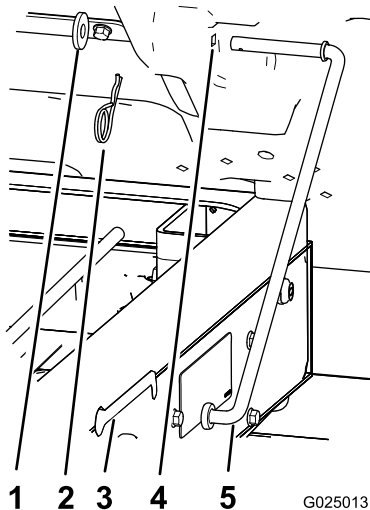

Figure 13
1. Remove the hairpin and washer that secure the prop rod to the bottom of the bed (Figure 13).
2. Slide the prop rod forward to remove it from the bracket on the frame (Figure 13).